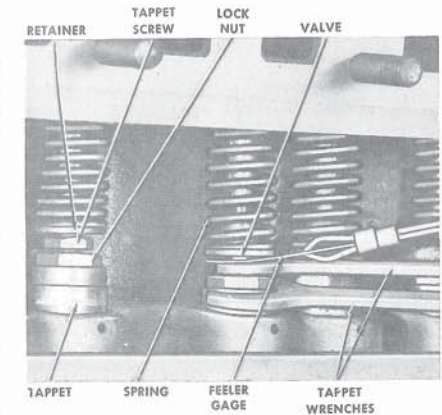

Fig. 13. Measuring and Adjusting Tappet Clearances
**Adjust Tappet Clearance.** Adjust both intake and exhaust valve tappet clearance to .012 (hot). Loosen tappet screw lock nut and adjust as shown in Figure 13.